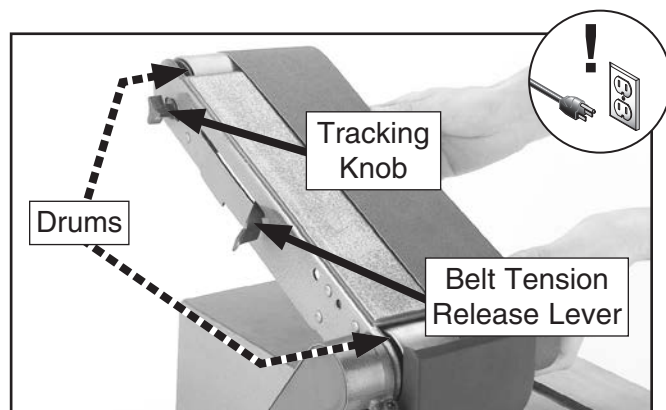

Figure 27. Changing/replacing sanding belt.
2. Raise sanding bed off of bed support, as shown in **Figure 27** (see **Adjusting Sanding Bed Angle** on **Page 19**).
3. Pull belt tension release lever out (see **Figure 27**) to release sanding belt tension. The lever will snap into position.